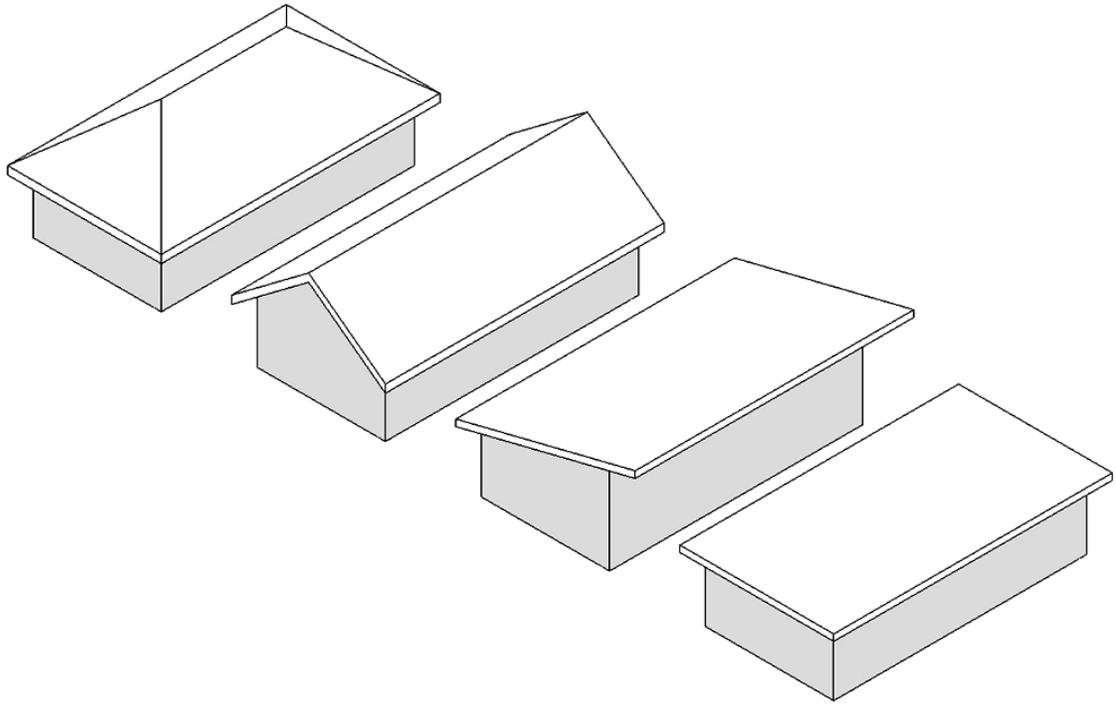

FIGURE 7-1.14 Default 3D view – flat roof
55. Also, take a look the **Default 3D view** (Figure 7-1.14).